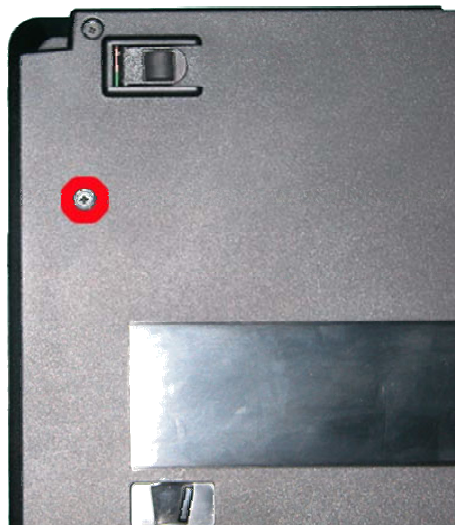

Fig. 9 Releasing the optical drive
1. Remove the screws retaining the optical drive as shown in Fig. 9